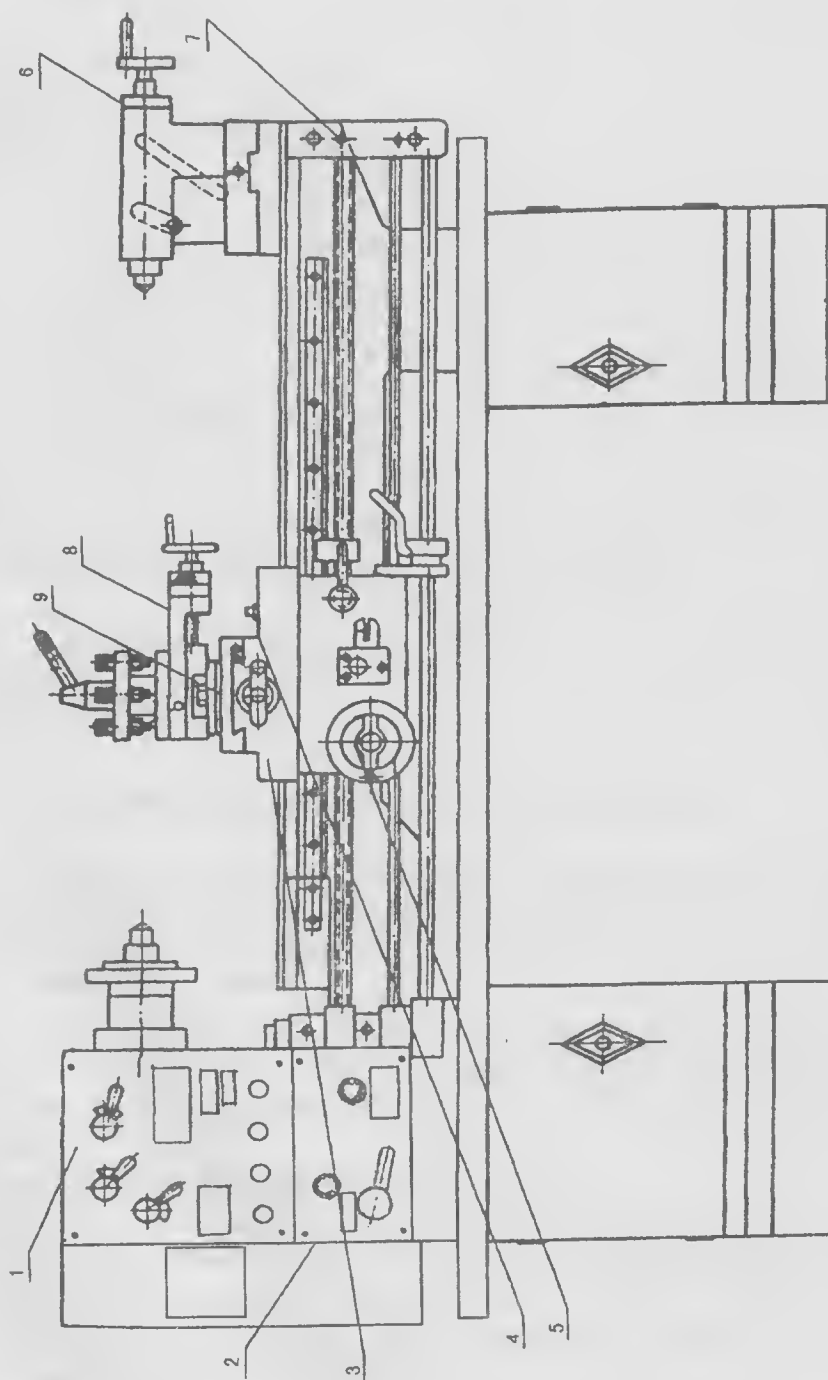

Fig.6 Lubrication Chart
- * All moving parts and sliding surfaces should be regularly lubricated with clean lubricating oil. Please refer to Fig. 6 for the lubrication holes.
- * No.2 through 11 are lubrication points (see Fig. 6). They are oiled with oil gun twice a day.